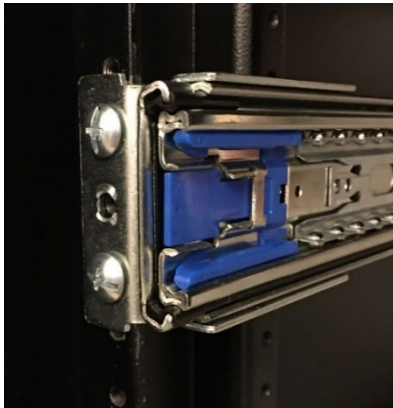

Figure 15: Outer Rail Mounted to Rack
4. Mount the outer rails to the rack (Figure 15) using supplied hardware at each end, or according to rack design.